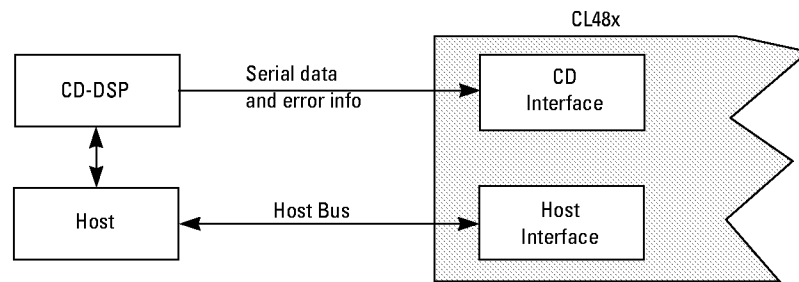

Figure 4-6 Sending Serial Coded Data on CD Interface
- Serial mode (through the CD interface) as shown in Figure 4-6 and described further in Chapter 8.